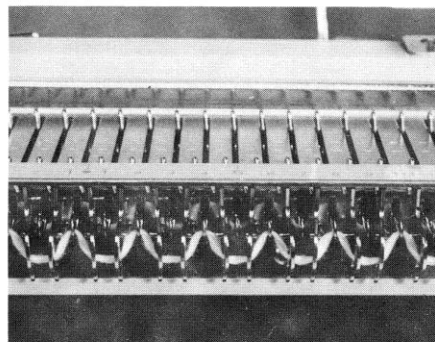

Fig.43
Now, it will be seen that every alternate needle has picked up the wool and all the needles have aligned in position (B). (Fig.43)